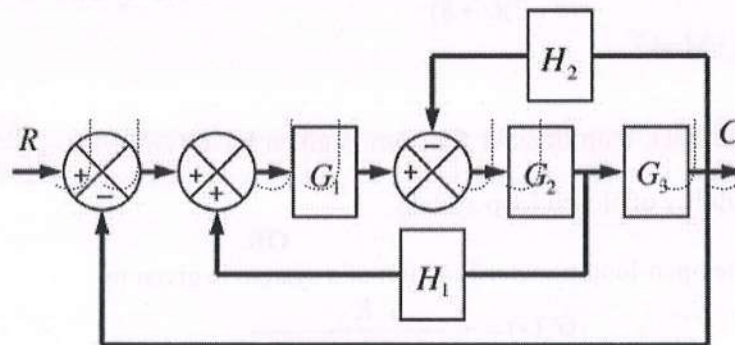

Figure: 1
- b) For the system represented by the block diagram shown in figure 1. Find $\frac{C}{R}$. [4+6]